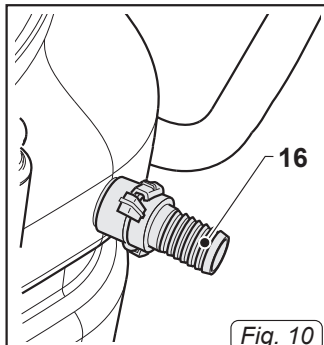

Fig. 10
- Connect a flexible hose to the 30-mm discharge outlet (16 Fig. 10).